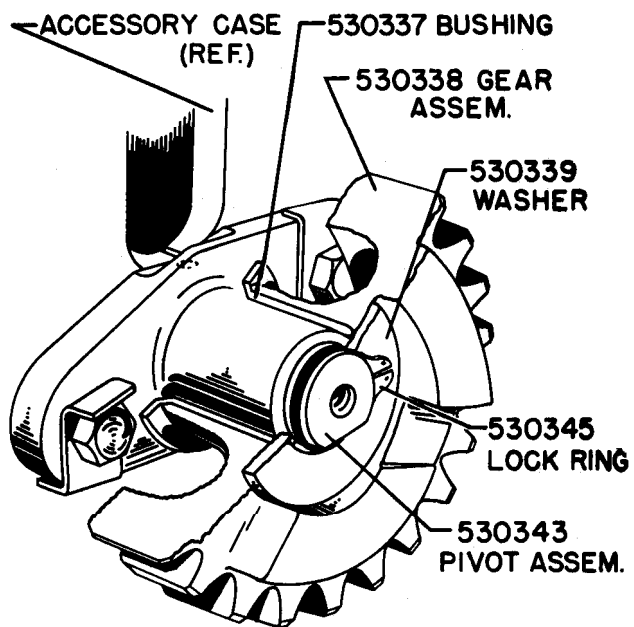

Fig. 5
G. Install starter gear assembly 530338 with 530339 washer and 530345 lock ring as shown in Fig. 5.